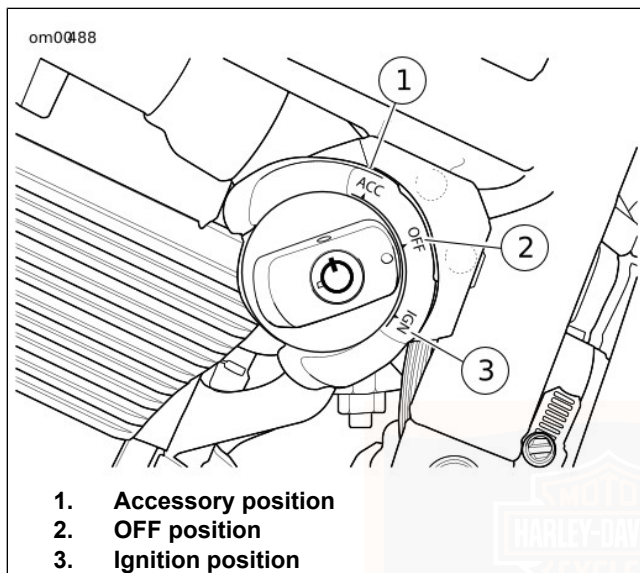

Figure 4. Ignition Switch: VRSC Models
1. See Figure 4. To remove the key from the ignition, turn it to the OFF position.
2. See Figure 4. Turn ignition/headlamp key switch to IGNITION and push the START switch to operate starter motor.
2. See Figure 4. Turn the ignition key to the OFF position to turn the ignition power completely OFF.